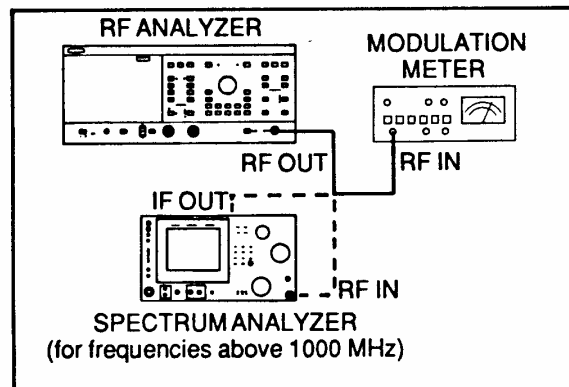

Figure 5-4. Test Setup for Residual FM Test
1. Setup the test equipment as shown in Figure 5-4, and turn the equipment on.